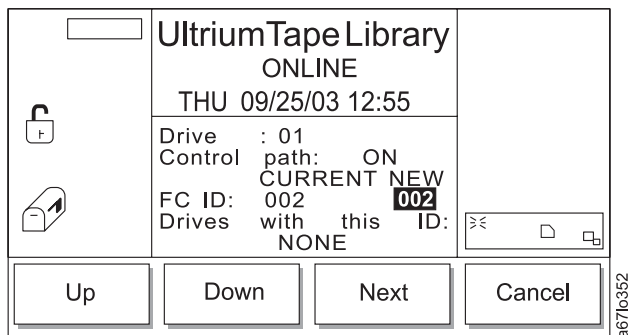

Figure 14-43. Loop ID Dialog
1. Press the button below the **Next** softkey. The Loop ID Dialog displays (see Figure 14-43).